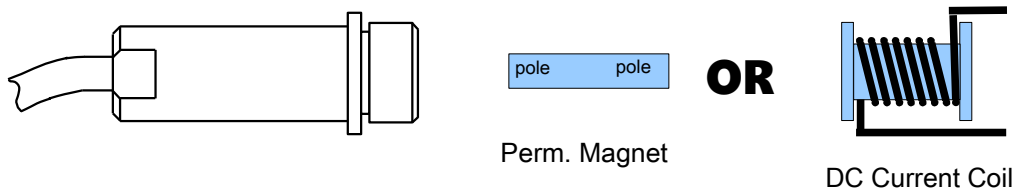

Fig. 6 GMS400 and magnetic field interaction
The moving object that is to be sensed has to provide a constant (DC) magnetic field by having built-in small permanent magnet or a DC current coil. The direction of that field has to be axial to the GMS400 as shown on Fig. 6 .